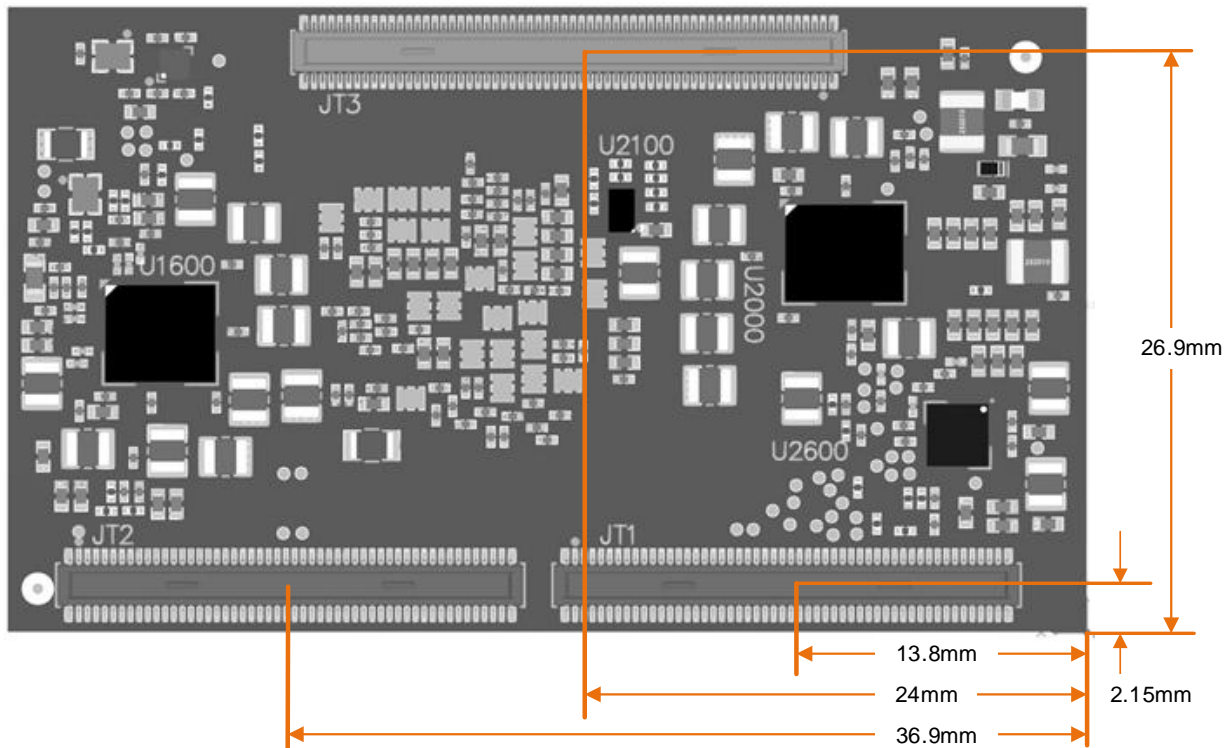

Figure 7. SOM Land-Pattern Dimensions
Dimensions are presented in millimeters (mm). The footprint information in Figure 7 can be used as a guide when designing a landing area for the SOM.
*The perspective of Figure 7 is looking at the bottom side of the SOM.